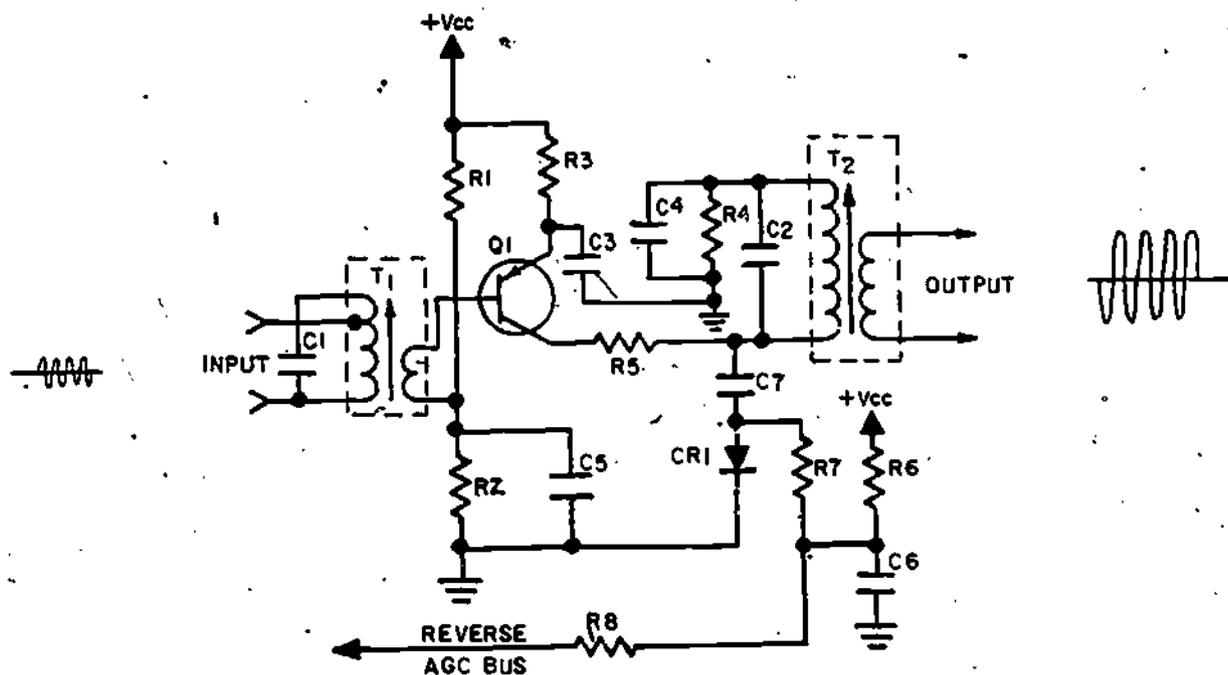

Figure 21
(23) Now that you know the purpose of AGC circuit components, let's see how they function in an IF amplifier. Figure 21 shows the IF amplifier with AGC components added.